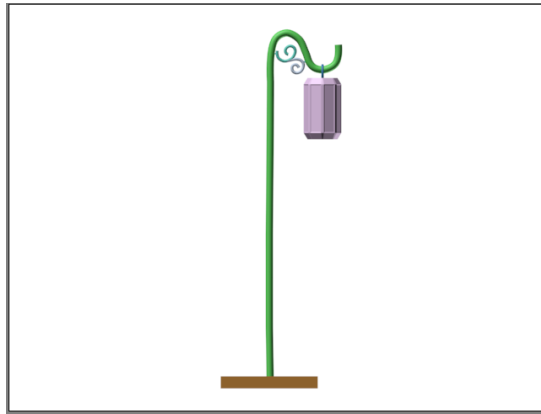

Figure 5-40 The rendered image
3. Activate the Perspective viewport. Next, invoke the **Render Production** tool from the **Main Toolbar**; the rendered image is displayed, refer to Figure 5-40.